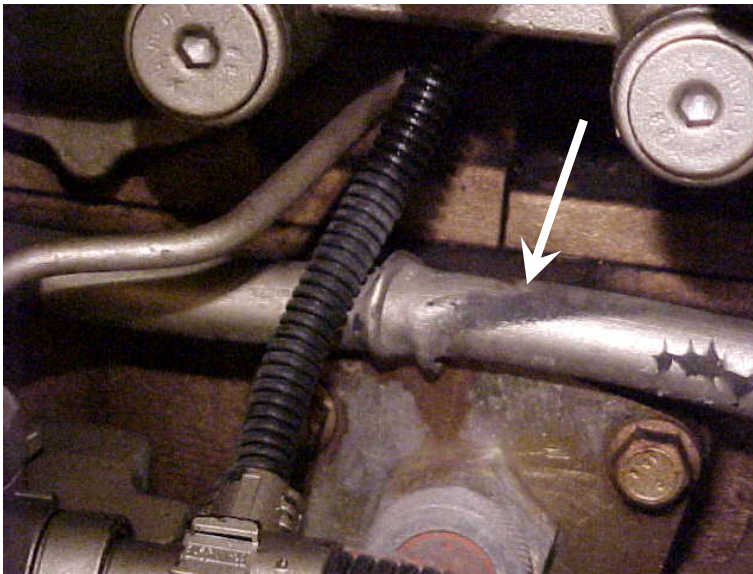

Figure 14 – EPA98 Main Fuel Return Line Inspection
4. On EPA98 engines, inspect the main fuel return line located just above the former block heater element location on the left side of the block. Replace the line if any damage is noted. See Figure 14.